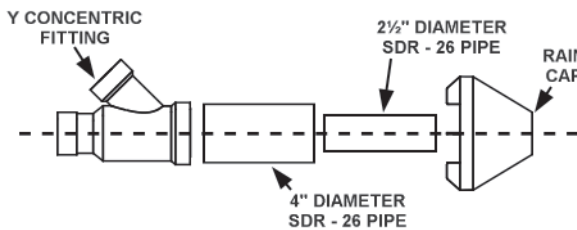

Figure 24
- Cement Y concentric fitting to larger diameter kit pipe, see Figure 24.
- Cement rain cap to smaller diameter kit pipe, see Figure 24.
- Cement the Y concentric fitting to larger diameter kit pipe, see Figure 24.
- Cement the rain cap to the smaller diameter kit pipe, see Figure 24.